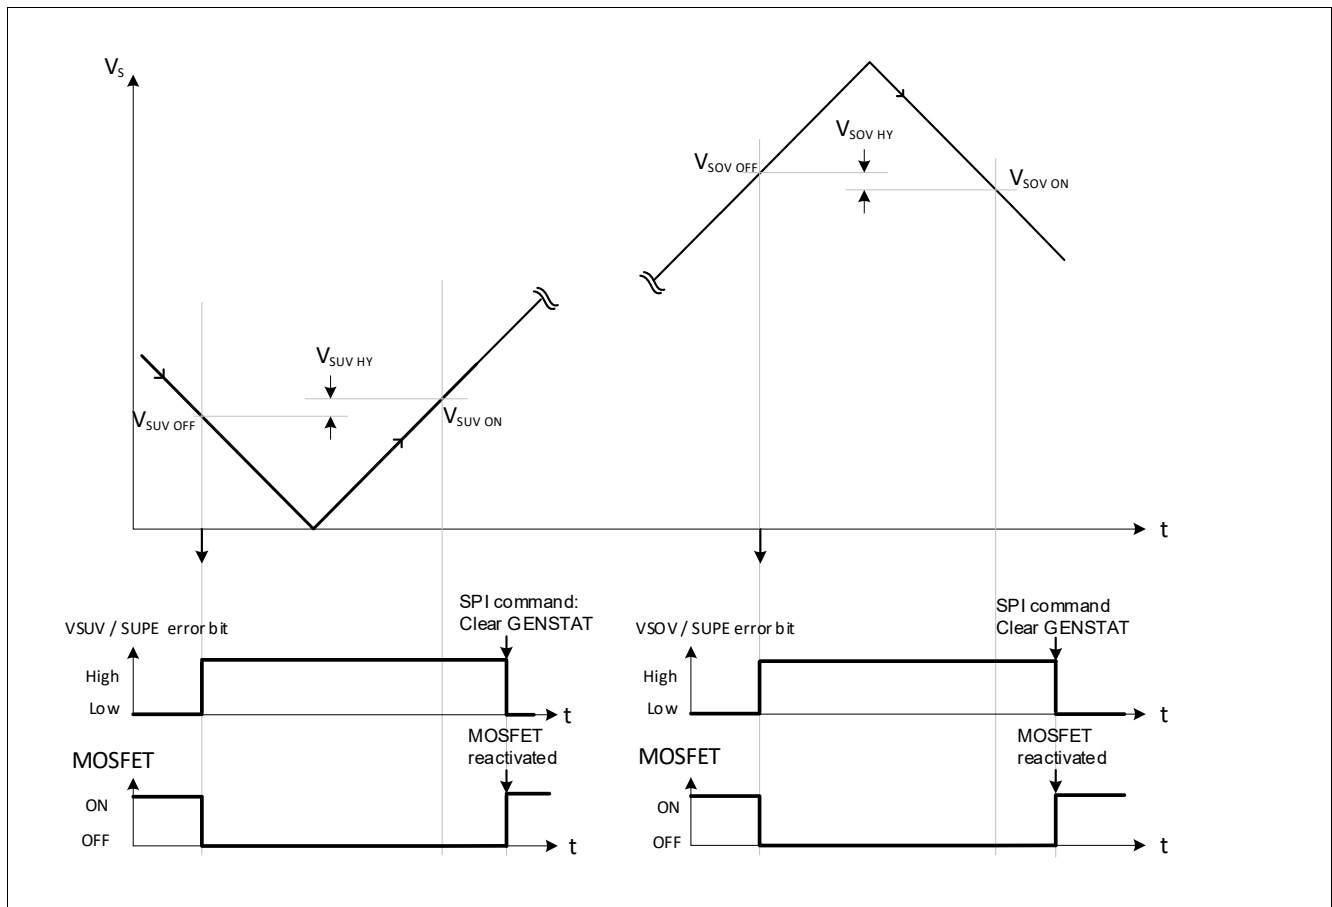

Figure 37 Output behavior during Over- and Undervoltage  $V_S$  condition
- $V_S > V_{SUV\ ON}$  (See **Figure 37**).
- $V_S < V_{SOV\ ON}$  (See **Figure 37**).